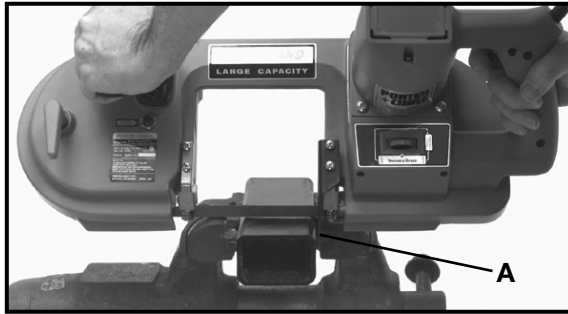

Fig. 4
3. Hold the saw as shown in Fig. 4, with the work stop (A) contacting the work and blade teeth clear of the work.